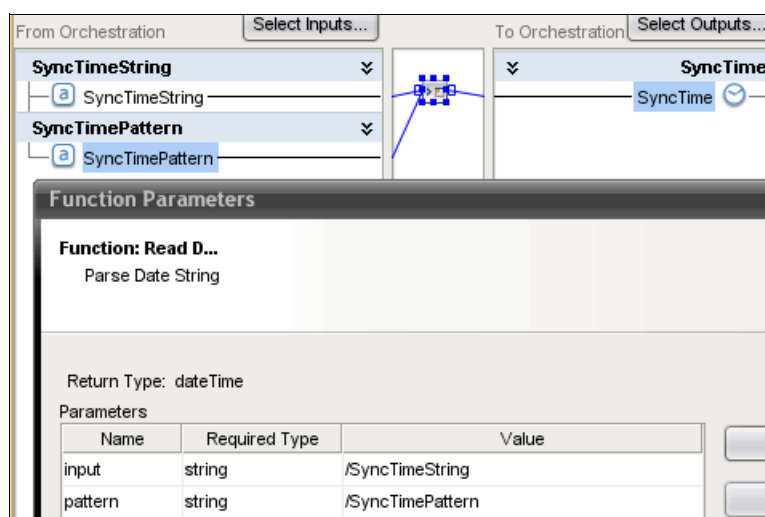

Figure 10-86 Parse SyncTime
10. Link the Read Date String function to the SyncTime variable. Double-click the Read Date String function. Verify that the mapping is the same as that shown in Figure 10-86, and then click **OK**.